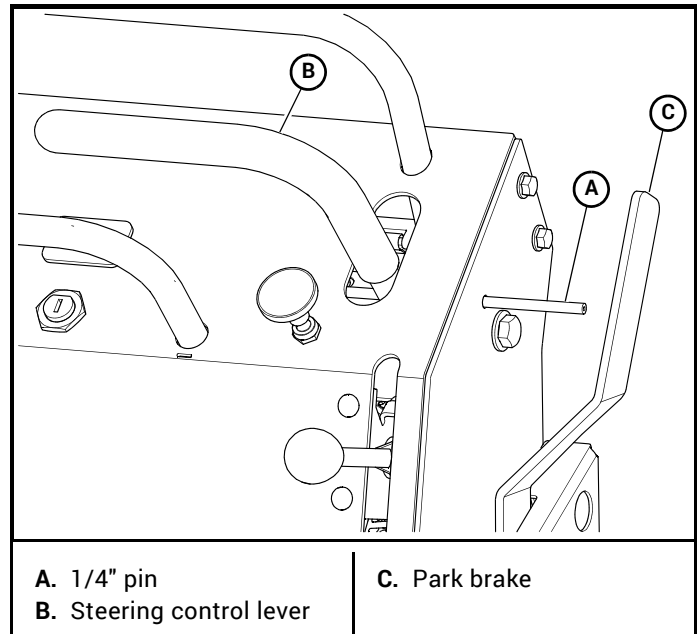

Figure 4-1
3. Insert a 1/4" pin through the opening in the mower frame and into the steering control lever. This ensures that the steering control lever is in the neutral position. Figure 4-1